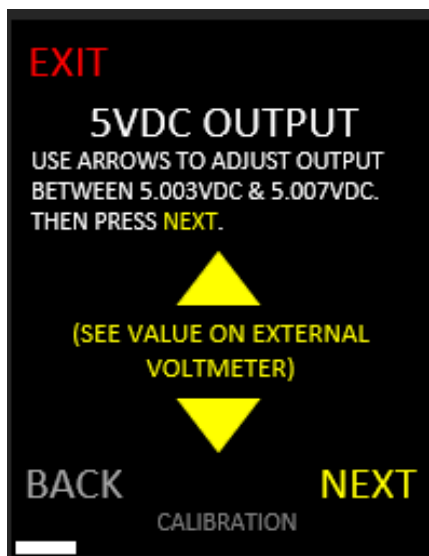

Figure 10. 5VDC Output Adjustment
6.3 Use arrows on the Touchscreen to change the 5 VDC output so the digital voltmeter reads in a tight range between 5.003 and 5.007 VDC (Figure 10). Select NEXT to continue.